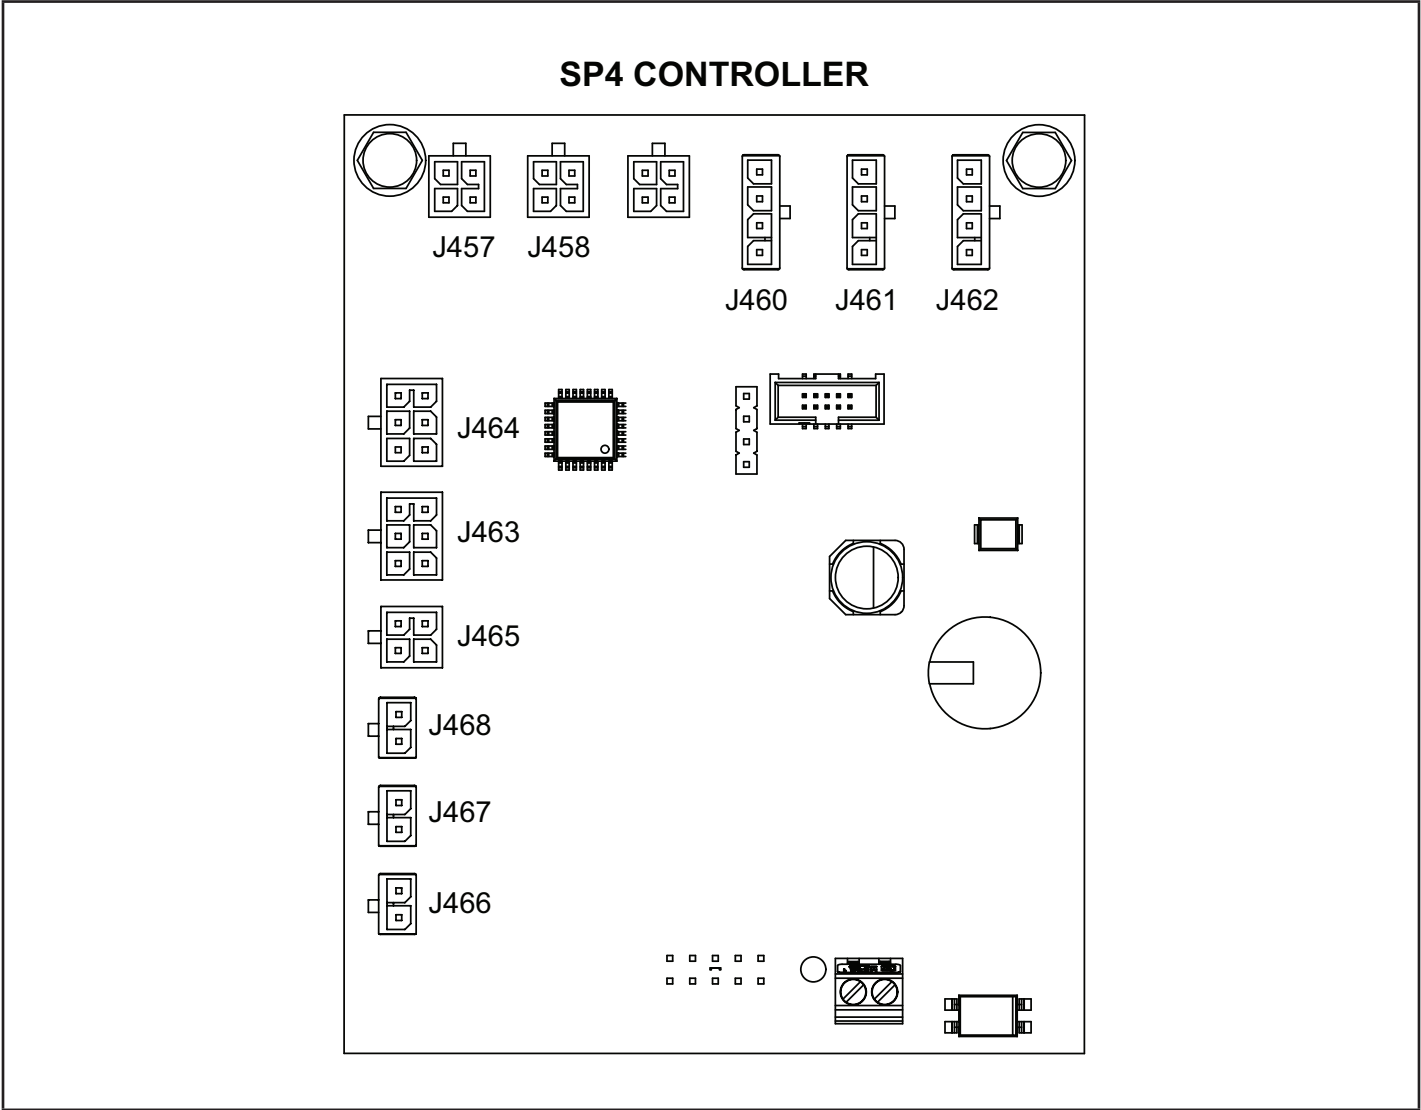

Figure 4
The 208/230 (Y) voltage transformers use two primary voltage taps as shown in Figure 4, while the 460 (G) voltage transformer use a single primary voltage tap. T43 is used for units with hot gas reheat for additional 24VAC.